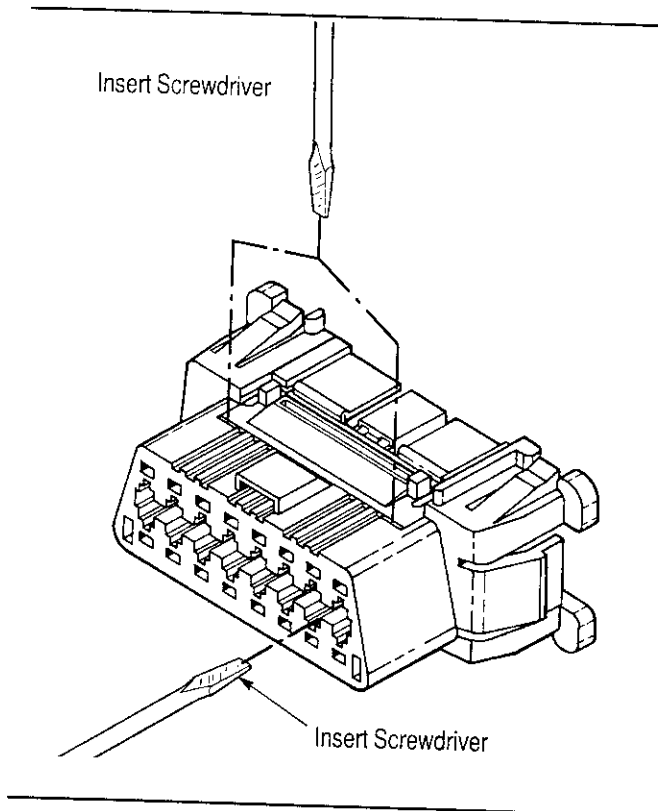

Figure 3
4. CONTACT REMOVAL (See Figure 3)